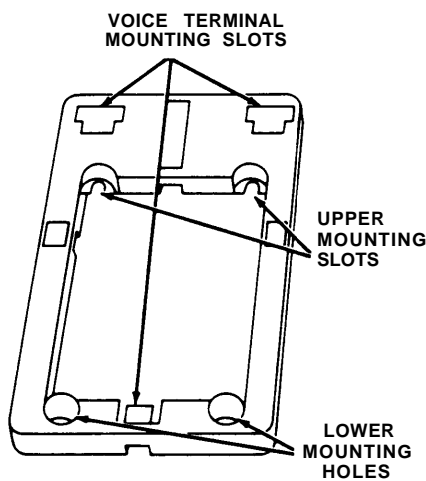

Figure 1
1. Select the wall mounting location; using the wall mount as a template, mark the four mounting hole locations (two upper slots and two lower holes). See Figure 1.